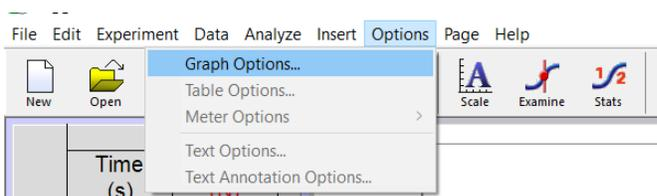
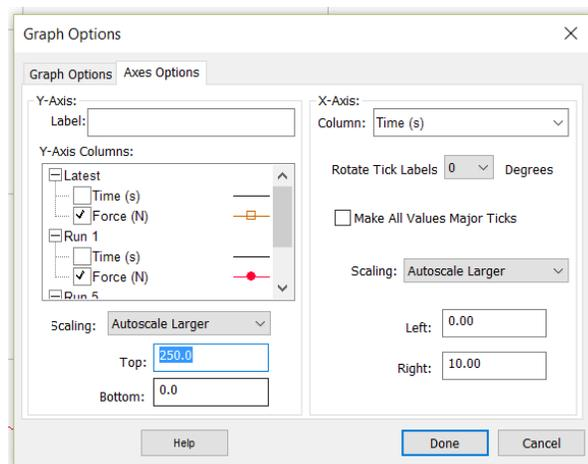

Figure-1
Figure-2
- Open Logger Lite software and Graph Options (see Figure-1). In order to match the scaling on the graph on the student handout, set up X axis between 0-10 seconds and Y between 0 and 250 N (see Figure-2). Change scaling for both axes to manual.